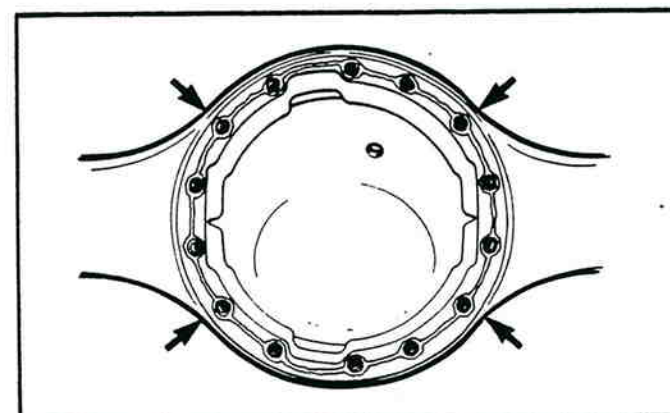

Figure 2-101. Installing Carrier Mounting Capscrews.
7. Install nuts and washers or capscrews and washers in the four corner locations around the carrier and axle housing. Tighten the fasteners hand tight at this time (Figure 2-101).
8. Carefully push the carrier into position. Tighten the four fasteners two or three turns each in a pattern opposite each other (see Figure 2-101).